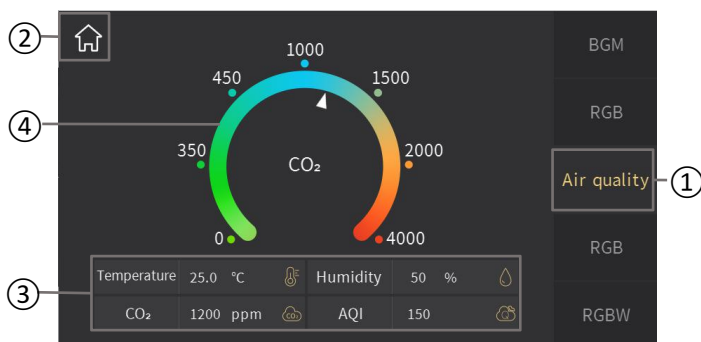
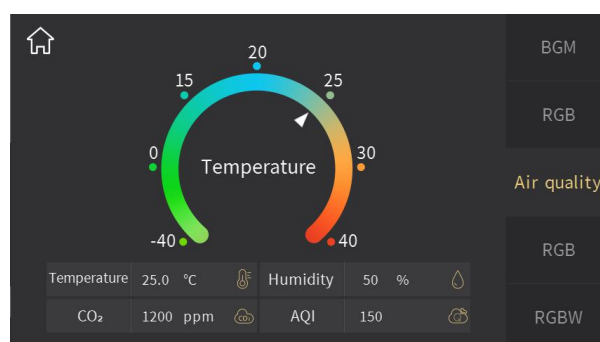

Fig.2.9.1
Fig.2.9.2
- ④ This ring strip is used for displaying the air quality parameter value;
Touch one of the items in the display list at the bottom of the interface, the pointer on the ring strip ④ will point to the corresponding scale, such as Fig.2.9.1 above is the display effect of CO₂, Fig.2.9.2 is the display effect